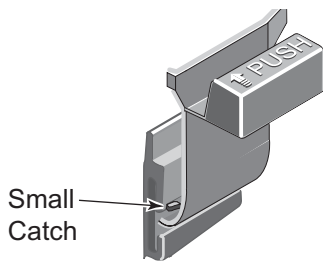

Figure 7 – Safety Latch
### SAFETY LATCH (See Figure 7)
1. Press down on the small catch behind the safety latch and press or tap the latch out of the "Tee" slot in the tank (see Figure 7).